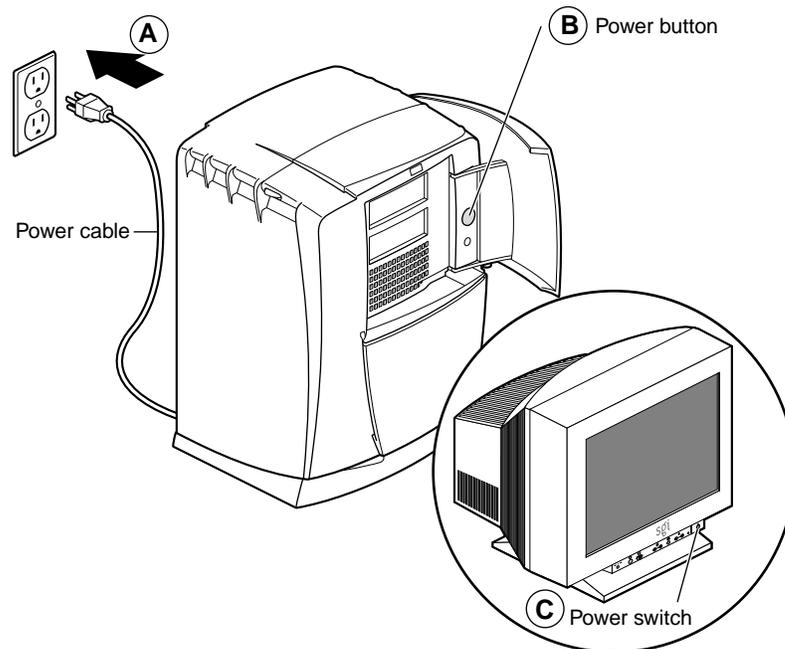

Figure 6-20 Powering On the Octane2 Workstation
1. Plug in the power cable to an electrical outlet (see A in Figure 6-20).
2. Press the power button (B) on your workstation.
3. Press the monitor power switch (C) to power on your monitor.